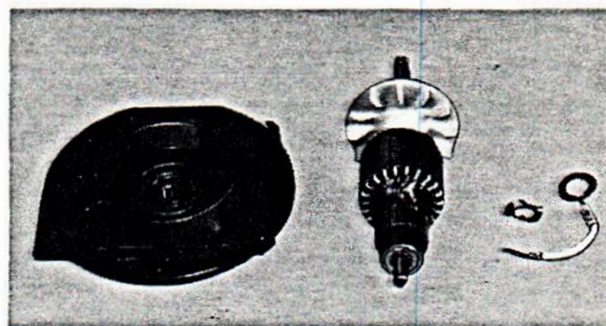

Figure 32. Front Bearing, Armature Assembly, and Static Wire
- E. See Figure 32. If required, the retainer and front bearing can be removed from the bearing plate subassembly by using a TRUARC snap ring tool No. 0300.